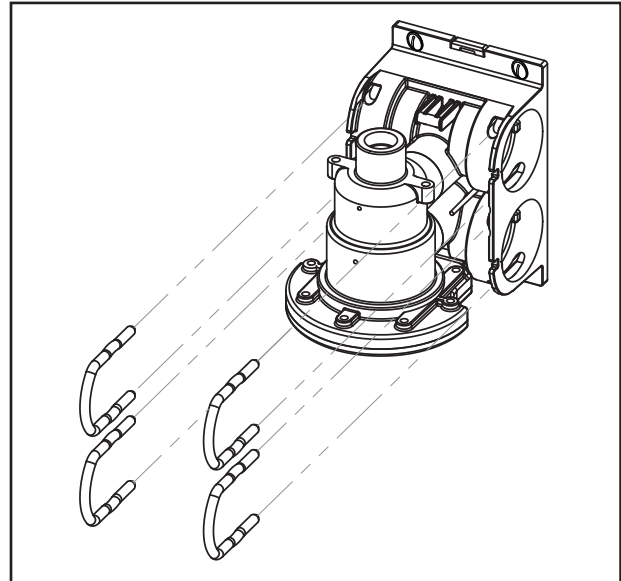

FIGURE 1. SECURE MANIFOLD
5. Secure the fitting and manifold assembly together by installing the yellow U Clips in the slots (Figure 1).